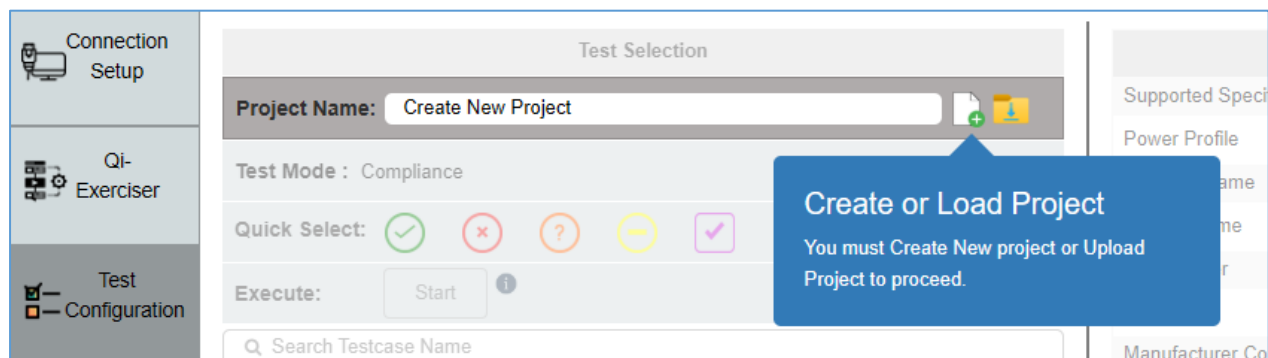

FIGURE 8.30: CREATE NEW PROJECT— #1
1. Click on **Create New Project** as indicated in Figure 8.30 below.